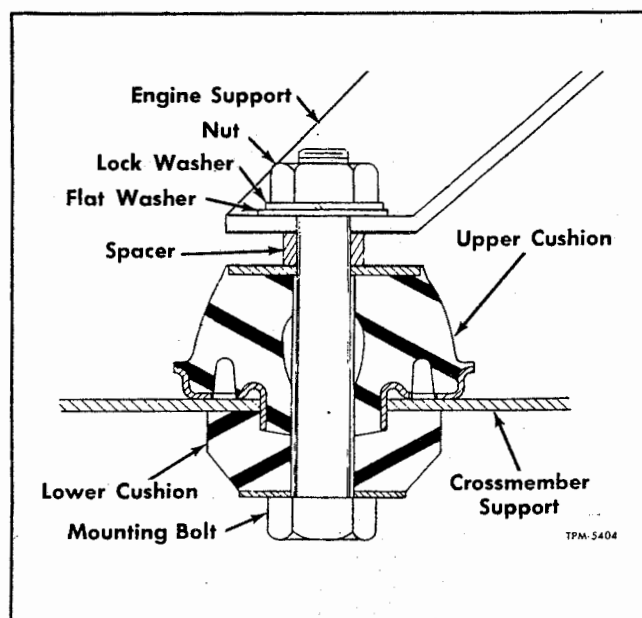
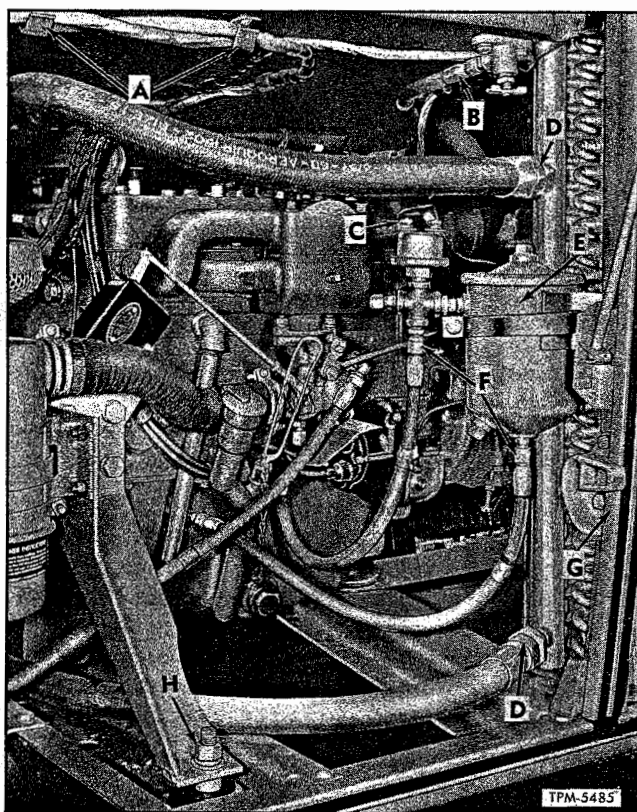

Figure 44—Engine Mounting
Figure 45—Disconnect Points Prior to Removing Condenser and Fan
3. Position engine and compressor forward to installed position. Install engine mountings (fig. 44).
4. Disconnect wires (C - fig. 45) from low oil pressure switch and magneto. Disconnect flexible oil lines (F - fig. 45) from oil filter and from tee fitting at bottom of low oil pressure switch. Remove clamp bolt securing oil filter (E - fig. 44) in bracket, remove oil filter, then remove oil filter bracket from removable post.
5. Disconnect flexible refrigerant lines (D - fig. 45) from condenser. Seal ends of lines and openings in condenser flanges with tape.
9. Remove two bolts securing removable post (G - fig. 45) at upper end. Remove two counter-sunk head bolts attaching post brace to cross-member, and remove two bolts attaching post lower bracket to side rail. Remove post, lower brace, and condenser hinge bracket assembly.
18. Disengage engine wiring harness (A - fig. 45) from clips on compartment ceiling, and disconnect wires from junction block on bulkhead. Disconnect starter cable and switch wire from starter magnetic switch. Tape end of cable to prevent short circuit.
4. Secure each of three engine mountings with a bolt, plain washer, lock washer, and nut and lower half of engine mount (fig. 44).
14. Install removable post (G - fig. 45), lower brace, and condenser hinge bracket assembly. Attach lower brace to crossmember with two countersunk head bolts, and attach post lower bracket to side rail with two bolts. Attach upper end of post with two bolts.
17. Connect flexible refrigerant lines (D - fig. 45) to condenser. Refer to "Refrigerant Line Connections" in "SYSTEM MAINTENANCE" section.
18. Install oil filter bracket on removable post, then install oil filter (E - fig. 45). Connect flexible oil lines (F - fig. 45); line leading to engine oil pan connects to outlet fitting at bottom of oil filter, and line leading from engine crankcase connects to bottom of tee fitting below low oil pressure switch. Connect wires (C - fig. 45) to low oil pressure switch terminals.